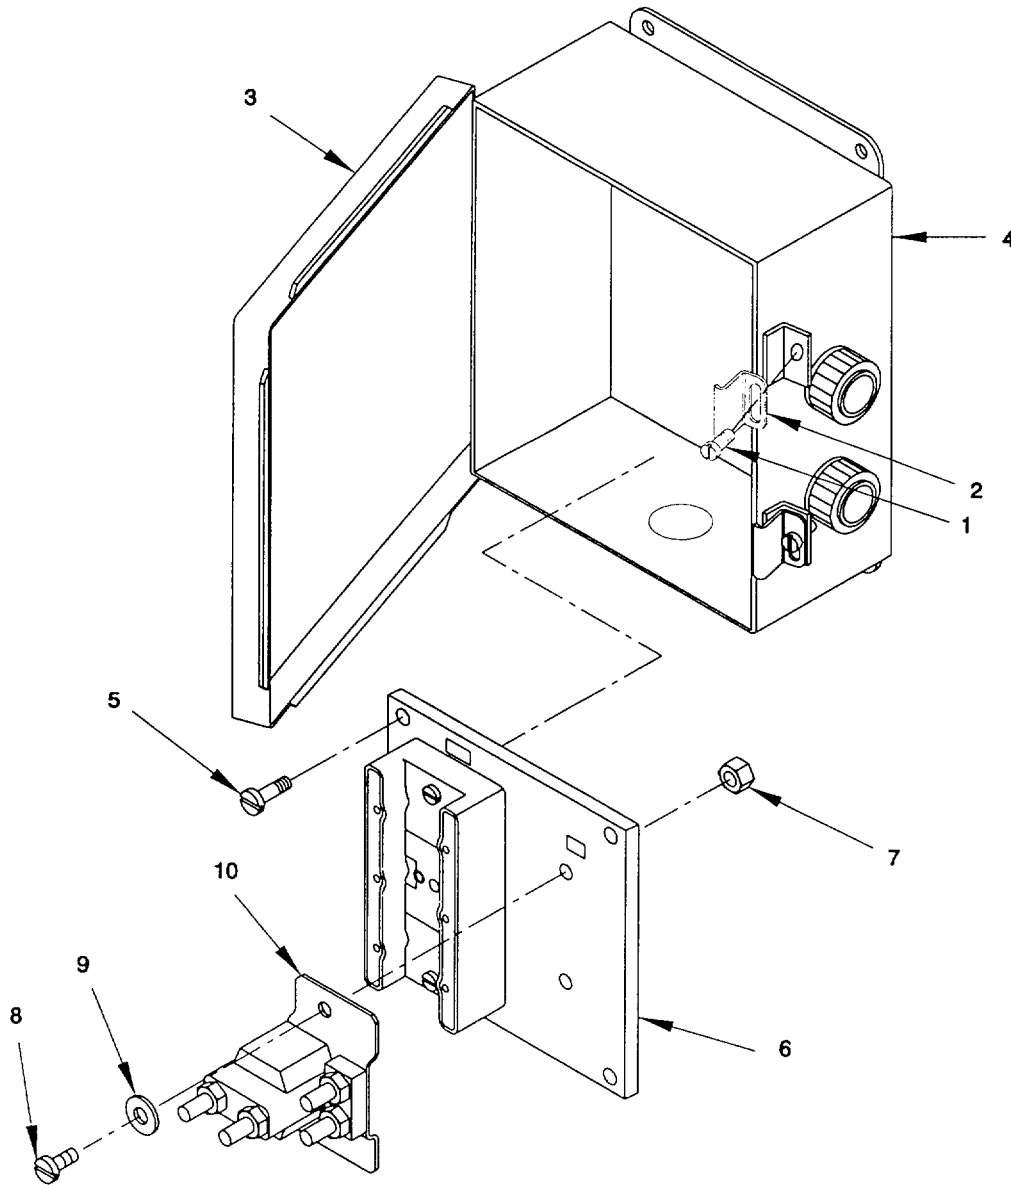

Figure 2-71. Relay, Vent Fan Relay Enclosure, Remove/Install
a. *Remove.* (figure 2-71)
- (1) Remove three screws (1) and three clamps (2) securing cover (3) to enclosure (4). Swing cover (3) open.
- (2) Disconnect and tag electrical wiring to the relay (10). Refer to Appendix G.
- (3) Remove four screws (5) and pull panel (6) out far enough to access rear of panel.
- (4) Remove two insert nuts (7), two pan head screws (8) and two flat washers (9) securing relay (10) to panel (6). Remove relay (10).
b. *Install.* (figure 2-71)
- (1) Apply sealing compound to screws (1, 5 and 8).
- (2) Position relay (10) on panel (6) and secure with two pan head screws (8), two flat washers (9) and two insert nuts (7).
- (3) Position panel (6) and secure with four screws (5).
- (4) Reconnect electrical wiring, as tagged, to relay (10). Refer to Appendix G. Use tie wraps to secure any loose wires.
- (5) Close cover (3) and secure with three clamps (2) and three screws (1).